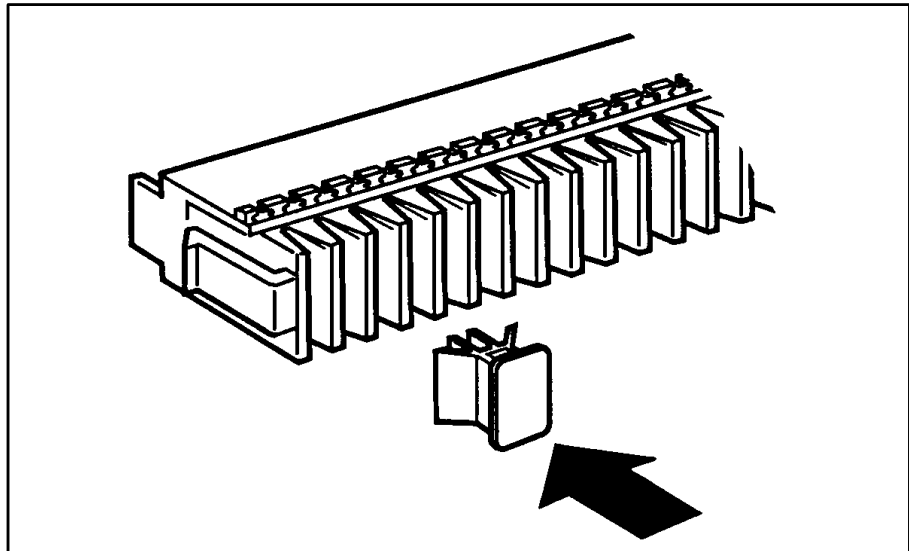

Figure 35 Marking plug for marking internally used alarms in the DF
2. Connect the free end of the cable to the Distribution Field (DF). See recommendations in table 18, table 19 and table 20.
5. Use a marking plug (product number 769 338/1) to mark the alarm already in use. See figure 35.